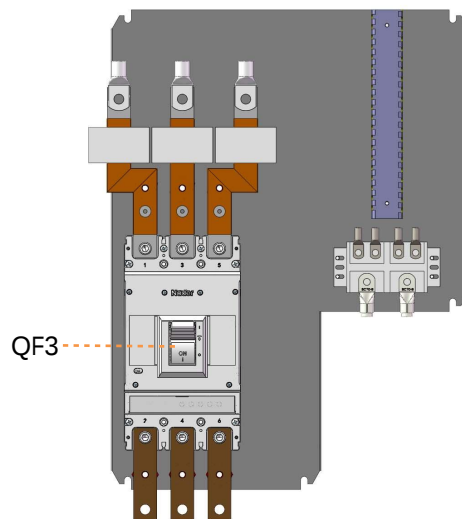

Figure 4.8: Single-Line Diagram
4. Select the appropriate size of the bolts, and use a wrench to fix and connect the "L1" phase, "L2" phase, "L3" phase and "N" phase cables respectively to the grid connection circuit breakers QF3 of the grid connection cabinet, as shown in Figure 4.8.